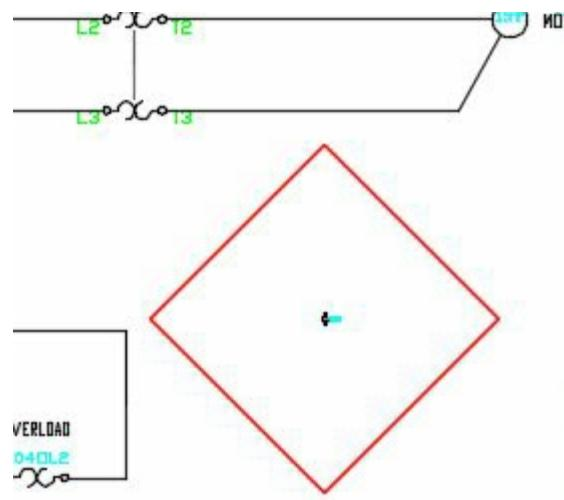

Figure-14. Component not having catalog data attached
- Click on the **Show** button to highlight the components not having catalog data attached; refer to Figure-14.